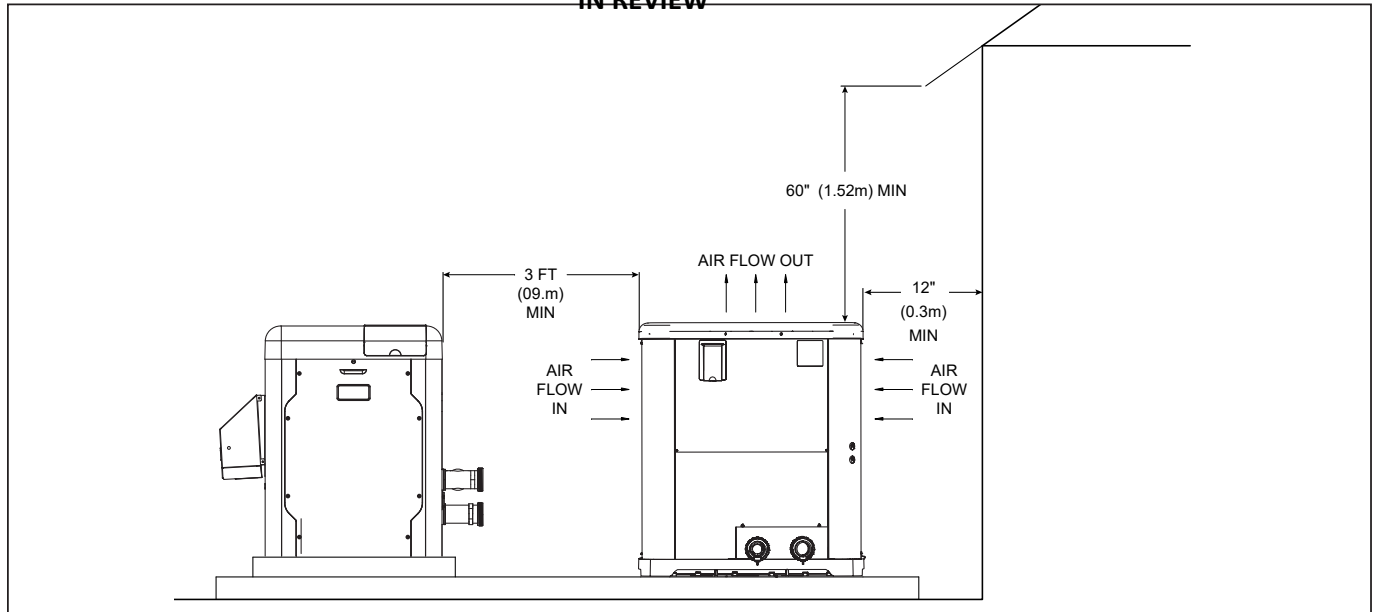

Figure 2. Installation Clearances
- This unit features an 'up-flow' discharge for quiet operation. Air is pulled up through the evaporator coil and discharged through the top grill. Allow at least 5 ft (1.5 m) clearance above the unit for unrestricted air discharge. Do NOT install the unit under a porch or deck. Refer to Figure 2 for installation clearances. Allowing cold discharge air to recirculate back into the evaporator coil will greatly reduce the unit's heating capacity and efficiency. To minimize water piping, locate the unit as close as possible to the existing pool pump and filter.